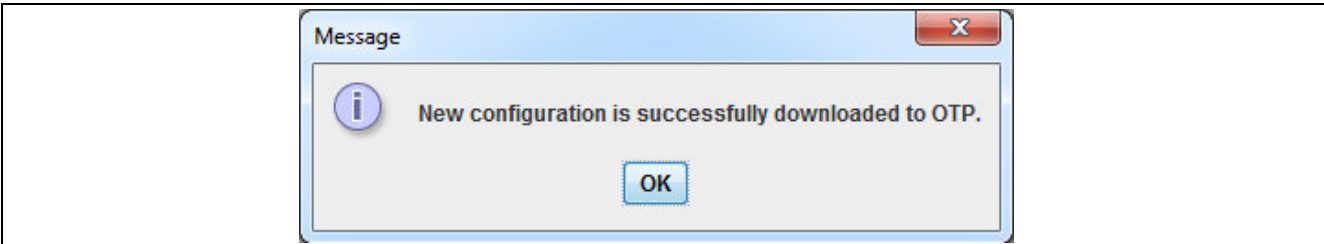

Figure 42 Burning a New Parameter Set – Message
3. Press the “Continue burning” button to burn the parameter block to OTP. After successful burning, the appropriate message will appear – see Figure 42.